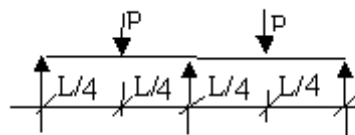

Figure 2:
- (b) Calculate the reactions at the three supports of a continuous beam using Castigliano's theorem. Shown in Figure 2. [6+10]